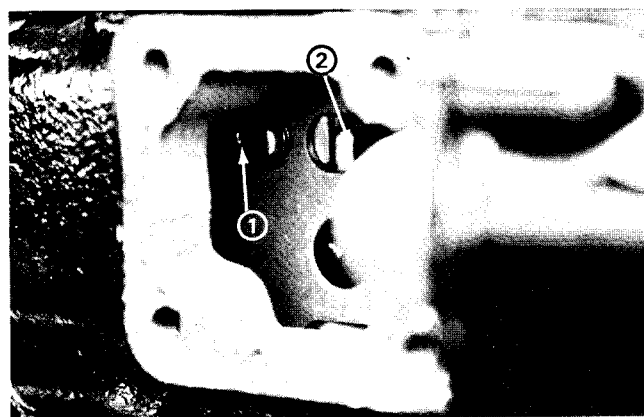

Figure 46
4. Thread the solenoid into the engine while moving the tie rod back and forth (Fig. 46). Stop screwing the solenoid into the engine when there is no free play in the tie rod.